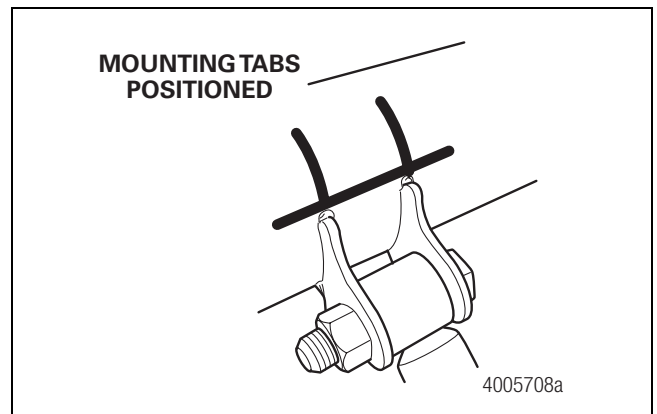

Figure 6
19. Install the mounting tabs onto a shock absorber or spacer to set the correct distance. Figure 6.